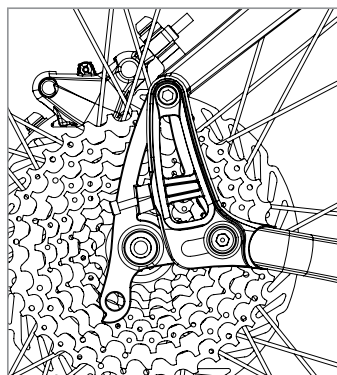

Figure 5
- Push the swing plates all the way forward (fig 5)